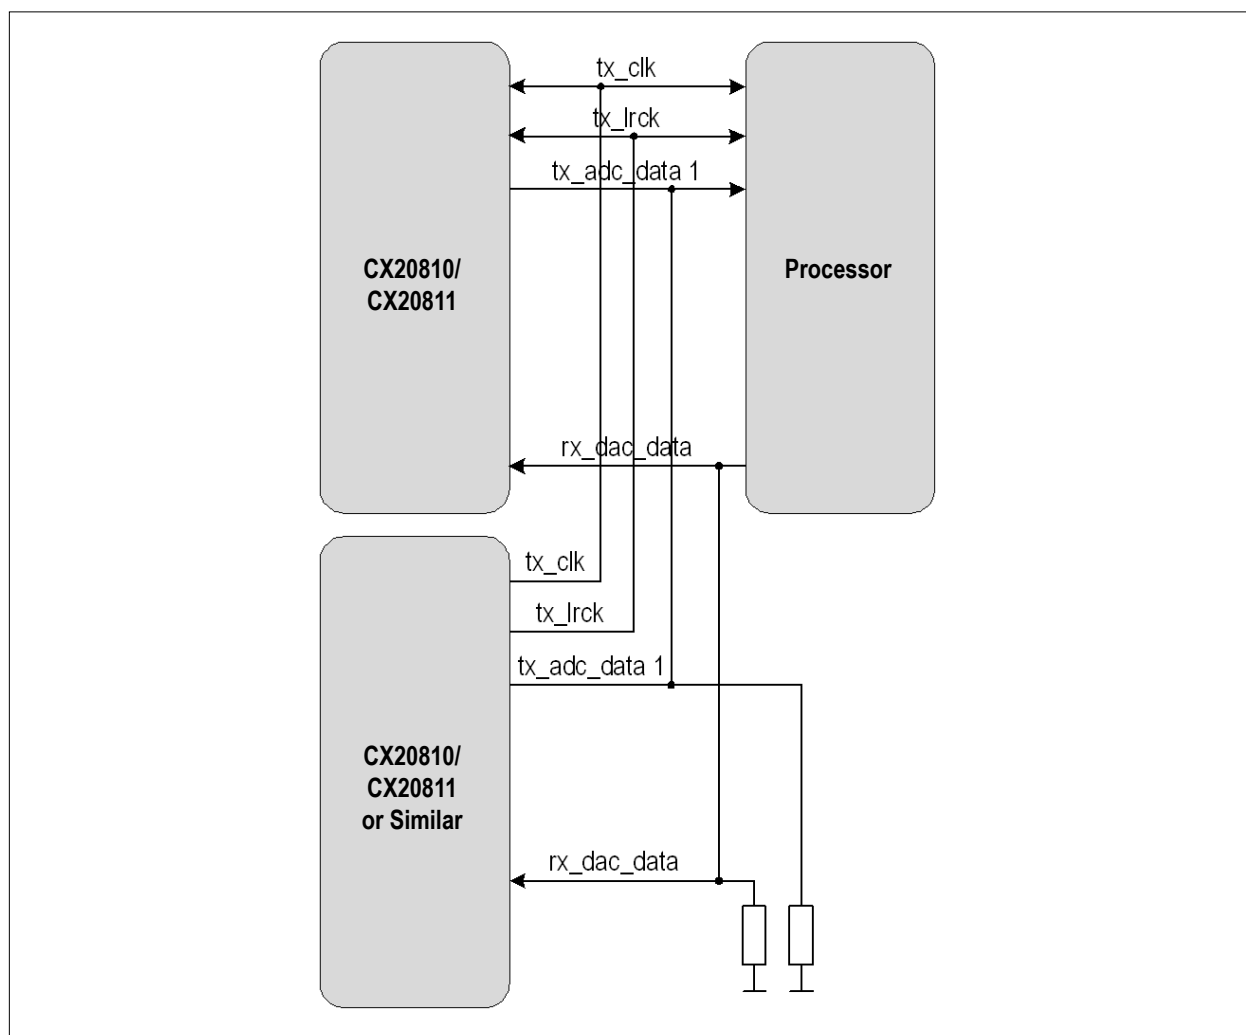

Figure 93: TDM with Other CODECs as the Master
- Figure 93 on page 171 provides the TDM with other CODECs as the master